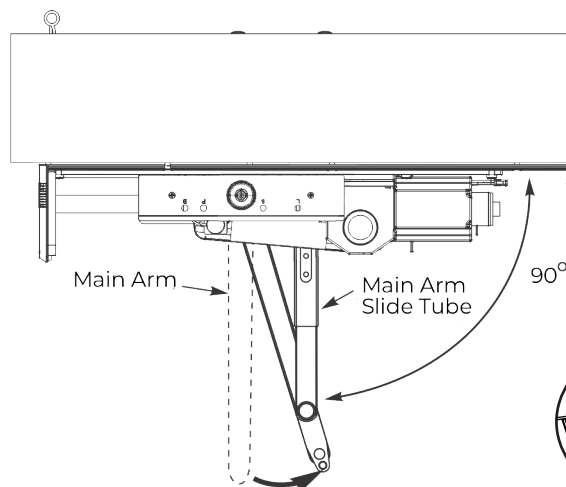

Figure 24 View from ceiling looking downward
5. With door closed, rotate main arm away from hinge until adjusting tube is perpendicular (90 degrees) with door. (Figure 24)